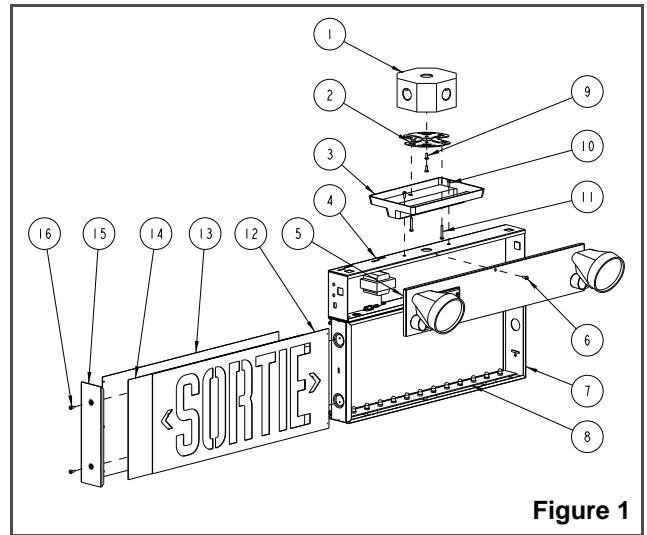

Figure 1
3. Remove stencil face. To open the sign, remove end cap (see fig. 1) and slide out the stencil face and diffuser panel.
- d. Fasten the canopy to the power pack (see fig. 1). Then, fasten the canopy and sign assembly to the spider plate using the provided 1 1/2" screws.